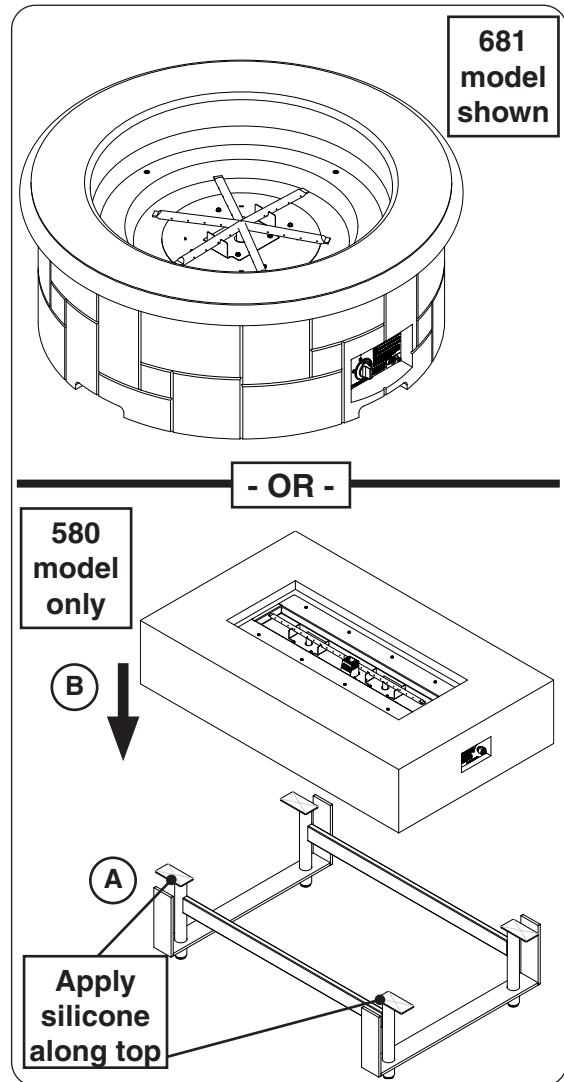

Fig. 28-1 Place unit
1. **CAREFULLY** place the unit in an appropriate location, and assemble if needed (see Fig. 28-1, and refer back to the LOCATION section if needed).